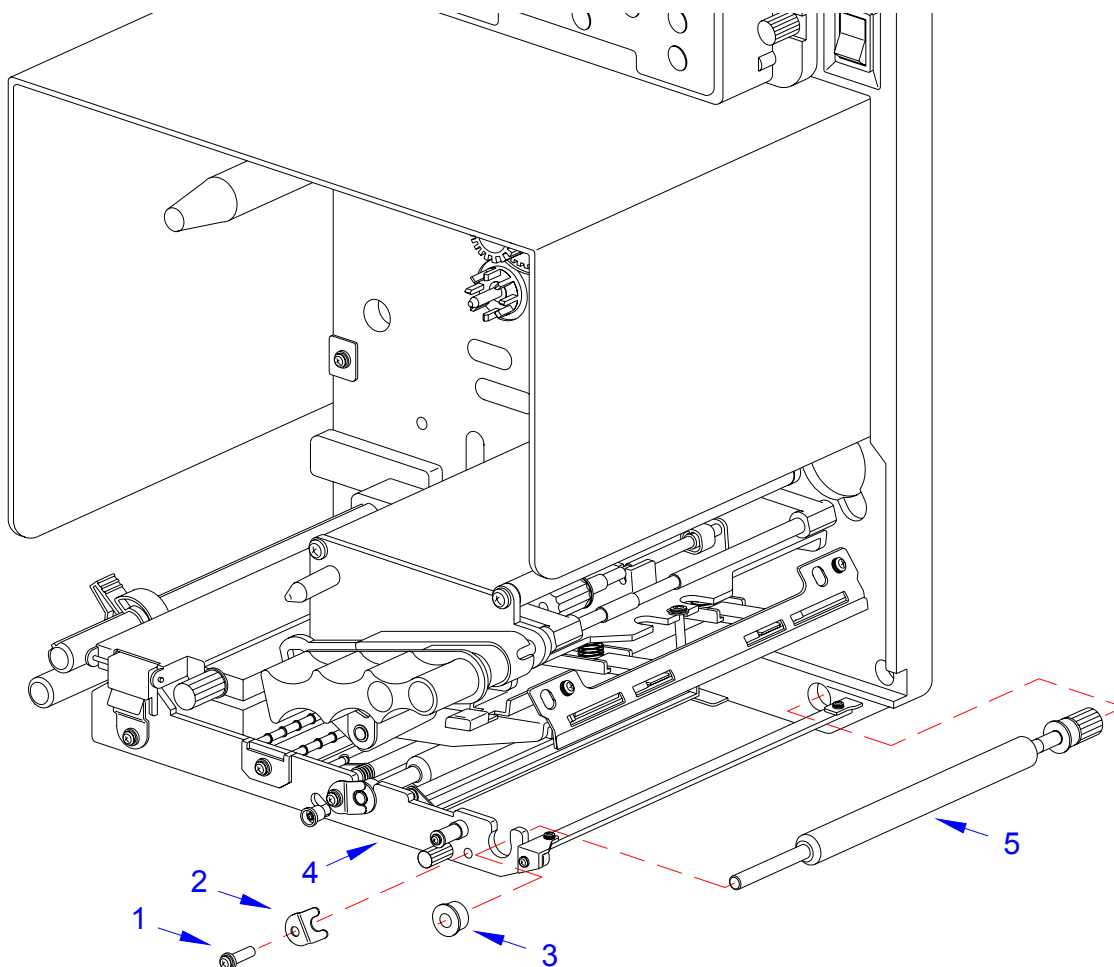

Figure 6-2, Platen Roller Replacement
3. Loosen screw (1, Figure 6-2) sufficiently to rotate bearing clamp (2) from bearing (3).